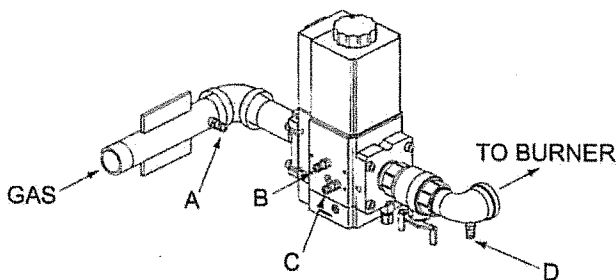

Fig. 45: Gas Pressure Measurement Locations
2. Attach (1) 12" scale manometer to an upstream bleedle valve on the gas supply pipe to the heater (Measure point "A" in Fig. 45).
3. Attach (1) 24" scale manometer to the manifold pressure tap located on the elbow downstream of the valve (Measure point "D" in Fig. 45).
4. Attach (1) 12" scale manometer near the fan-proving switch. Pull black cap from air pressure switch tee and connect the manometer. NOTE: Retain caps for reinstallation later.
- Check manifold gas pressure at the gas valve outlet pressure tap (connection "D" in Fig. 45). This pressure should read per the values in Table S for natural and propane gas.